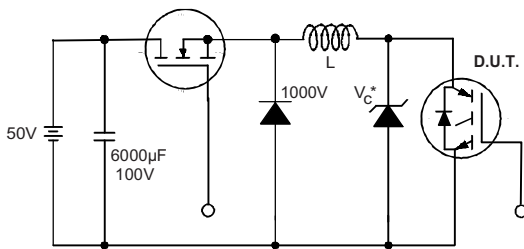

Fig. 19 - Clamped Inductive Load Test Circuit
(2)  $V_{CC} = 80\% (V_{GES})$ ,  $V_{GE} = 20\text{ V}$ ,  $L = 10\text{ }\mu\text{H}$ ,  $R_G = 50\text{ }\Omega$  (see fig. 19)